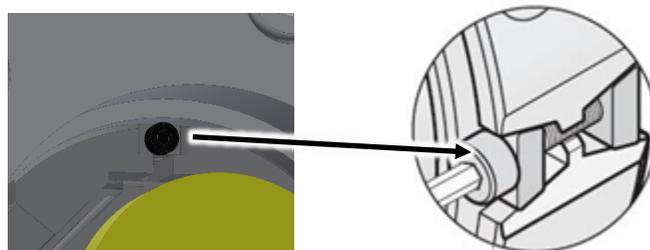

Figure 20
3. Loosen the encoder locking screw M2.5, with hex wrench (2 mm) through encoder mounting plate port shown in Figure 20. The screw does not need to be removed.